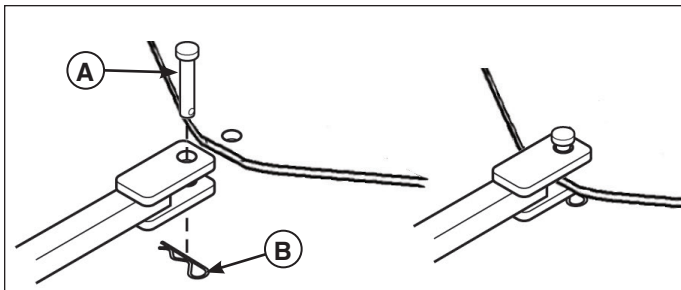

Figure 11
Secure the trailer with an appropriately sized clevis pin (A, Figure 11) and clip (B).